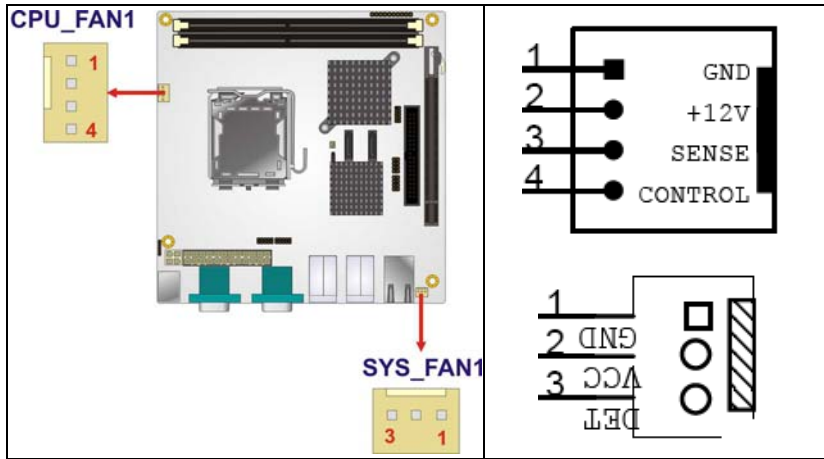

Figure 4-4: Fan Connector Locations
- CN Location:** See **Figure 4-4**